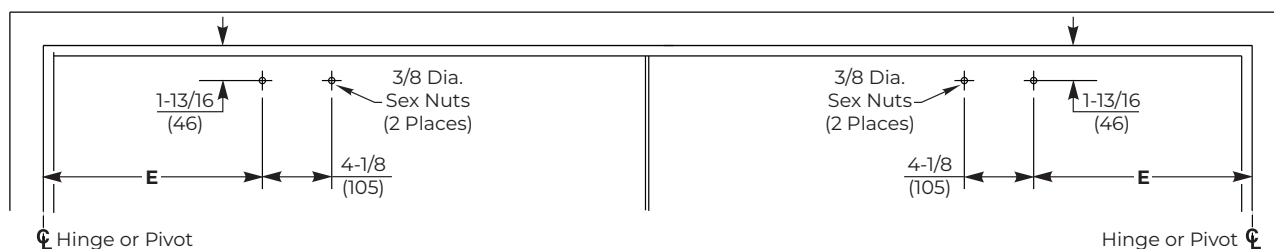

Figure 8
1. Locate and prepare adjusting tube and shoe holes in doors. (Figure 8)